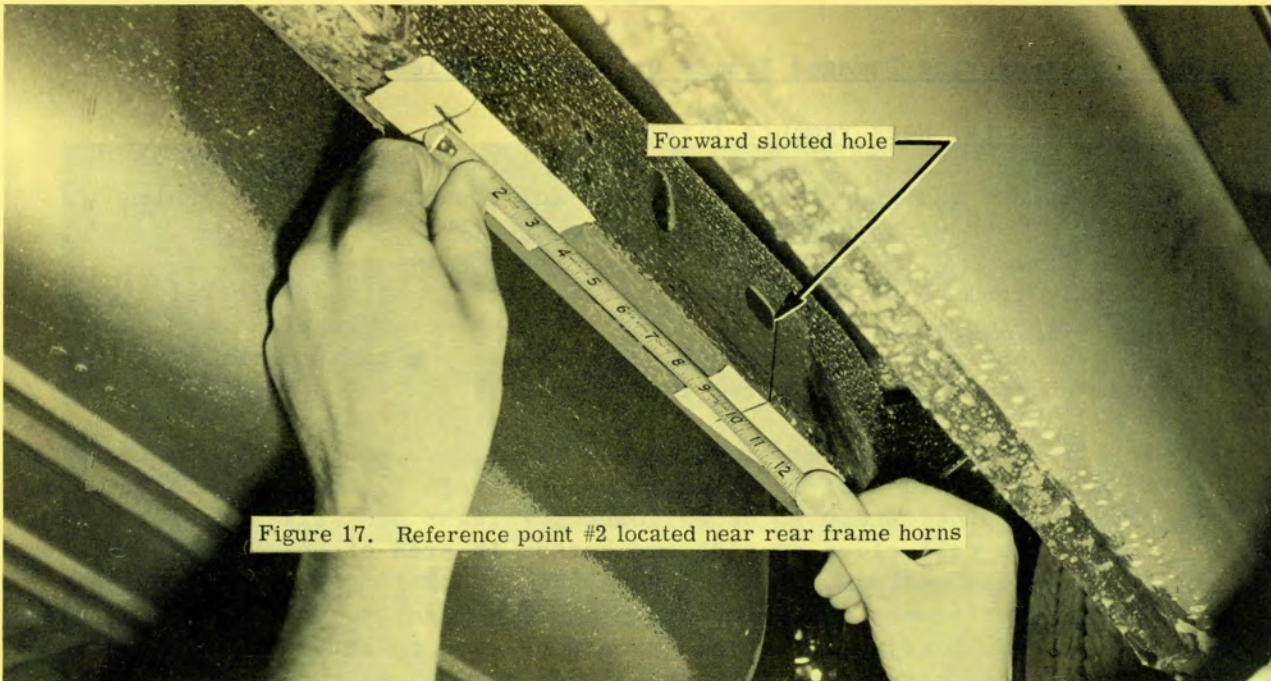

Figure 17. Reference point #2 located near rear frame horns
3. Reference points 2A and 2B will be found by using forward slotted bumper holes. See figure 17. Wipe frame clean in hole area and place masking tape on cleaned surfaces. Using a tri-square, make a line perpendicular to bottom surface of frame and running through forward edge of slotted hole; extend this line across bottom surface by use of the square. Measure in exactly  $3/4$ " from outside of frame and intersect line to locate point 2A. Point 2B will be found by the same procedure.